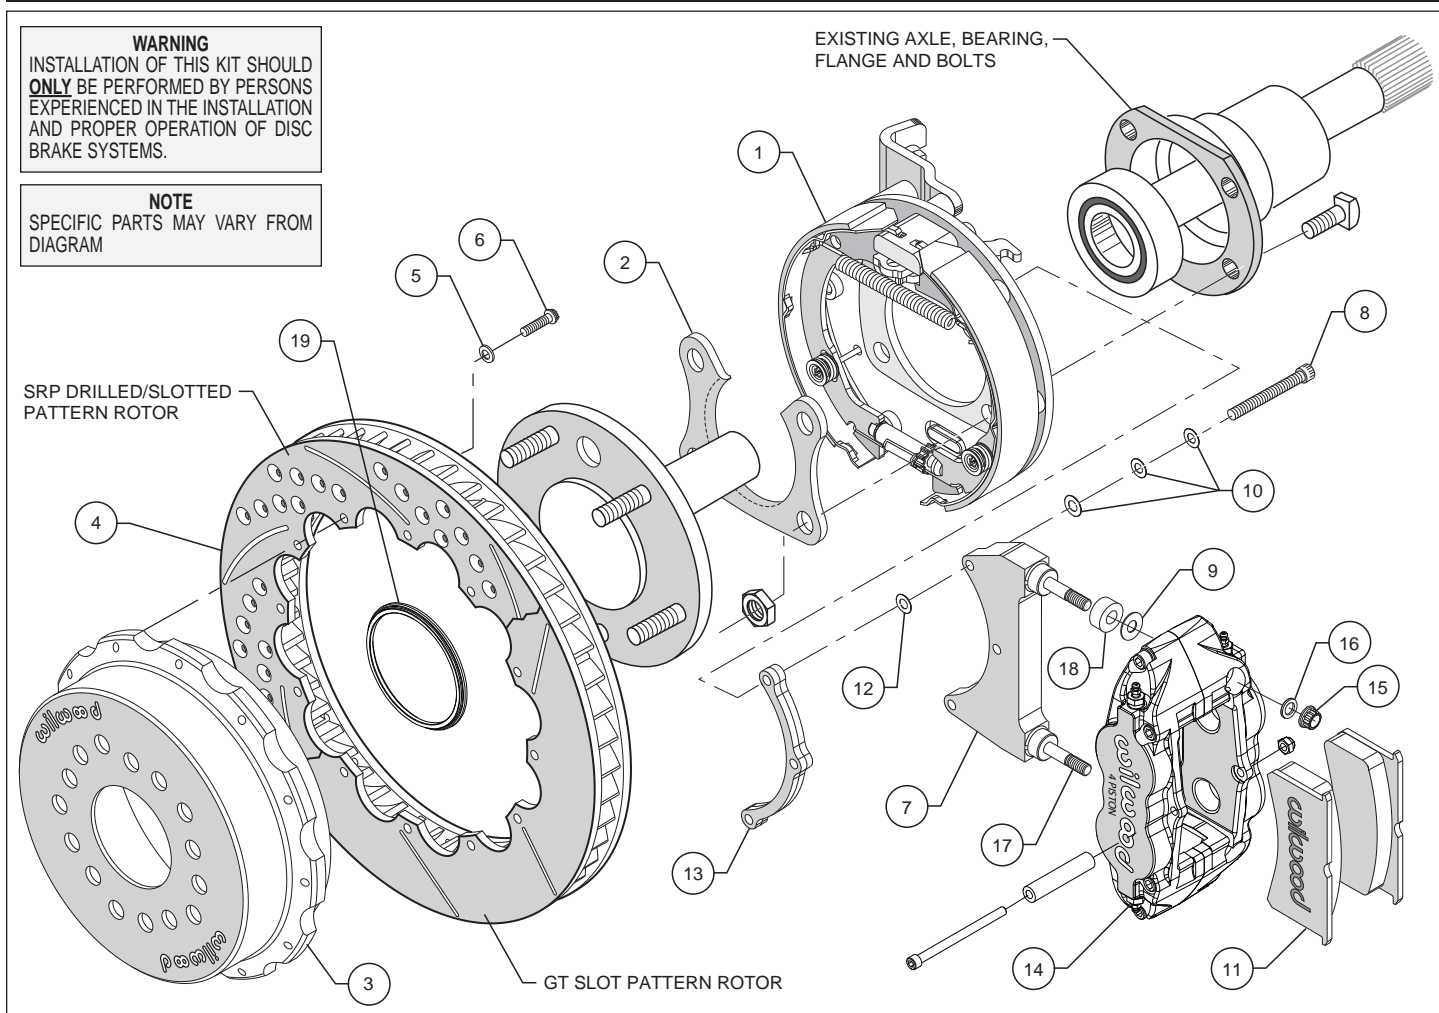

Figure 1. Typical Installation Configuration
- Slide the bracket kit assembly (1) onto the housing flange and then insert the axle assembly through the center hole of the bracket kit assembly (1). Align the bearing retainer, as shown in Figures 1 and 4, and secure using the stock Original Equipment Manufacturer (OEM) bolts and nuts. Stock OEM hex nuts that retain the bracket kit assembly (1) and retainer (2) should be on the wheel side of the bracket. Apply red *Loctite*® 271 to the stock OEM bolt threads and torque to OEM specifications. Make sure the bracket kit assembly (1) brake pads are FACING OUTWARD TOWARDS THE WHEEL.
- Slide the rotor registration adapter (19) onto the axle register on the axle flange with the smaller O.D. facing toward the rotor/hat (3). Align the correct hole pattern in the hat with the stud pattern on the axle flange. **NOTE:** Some OEM and aftermarket axles come with stud sizes larger than 0.50" diameter. Verify stud size and have a qualified machine shop drill the hats to the correct size, if necessary. Slide the hat/rotor assembly (3 and 4) over the wheel studs covering the bracket kit assembly (1) and against the axle flange face. Check to be sure the hat seats squarely against the hub. Install a couple of lug nuts (finger tighten) to keep the rotor/hat assembly in place while continuing with the installation.
- NOTE:** Please reference the caution statement at the beginning of the assembly instructions. The caliper mounting bracket assembly (7) should be installed first with clean, dry threads on the mounting bolts (8). Install the bracket from the rear side of the bracket kit assembly (1) by sliding bolt (8) through three flat washers (10), bracket (7), shim washer (12) and finally through the spacer (13), see Figure 1. **NOTE:** End of bolt should not exceed inside face of insert. The bracket must tighten squarely against the back side of the bracket kit assembly (1). Inspect for interference from casting irregularities, machining ridges, burrs, etc. Use one thin shim (12) between the bracket (7) and spacer (13) during initial trial fitting.
- Install one spacer (18) and one shim (9) over each pre-installed stud (17) on the radial mount bracket (7). Slide the caliper (14) in place over the studs and rotor, then install the washer (16) and lock nut (15) to hold the caliper in place. Snug the lock nuts (15) and check that the rotor (4) is centered in the caliper (14). Add or subtract .015" shims (12) as necessary between the caliper mounting bracket (7) and the spacer (13) to center the caliper (9).
- Remove the caliper center bridge pad retainer bolt, nut, and tube from the caliper. Slide the brake pads (11) into place. They should install easily without interference. Check that the outside radius of the brake pad is aligned with the outside diameter radius of the rotor face. Add or subtract shims (9) between the caliper (14) and mount bracket (7) to gain the proper alignment. Reinstall the center bridge pad retainer tube, bolt, and locknut. The locknut should be snug without play in the bolt or tube. Be cautious not to over tighten.
- Adjust the parking brake shoes outward (using a drum shoe adjustment tool available at your local auto parts store) while spinning the hat (3) until a slight drag is felt against the hat/drum. Remove the lug nuts that were holding the hat/rotor in place. Install the wheel and lug nuts. Check to see that the wheel rotates freely without interference.
- Once all clearances have been checked, remove the wheel, caliper, hat/rotor from the bracket kit assembly (1). Secure the caliper mounting bracket (7) to the bracket kit assembly (1) using red *Loctite*® 271. Torque bolts (8) to 180 in-lb. Reinstall the hat/rotor assembly and again use lug nuts to hold it in place. Lubricate caliper mounting studs and nuts with lightweight oil, reinstall the caliper, torque the caliper nuts (15) to 28 ft-lb.
- NOTE:** Clevis and cable kits which attach to the parking brake assembly are not included in the Wilwood parking brake kit. Wilwood offers a generic style parking brake cable kit, P/N 330-9371 for this application which can be ordered separately from your local Wilwood dealer or by calling Wilwood customer service at (805) 388-1188.